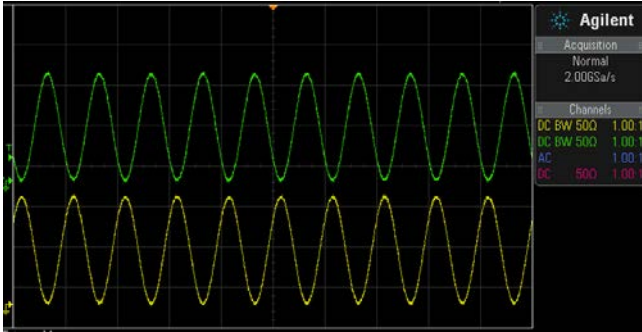

Figure 9 : Example 6 Result
- f. The outputs from J2 and J8 will be as shown in Figure 9